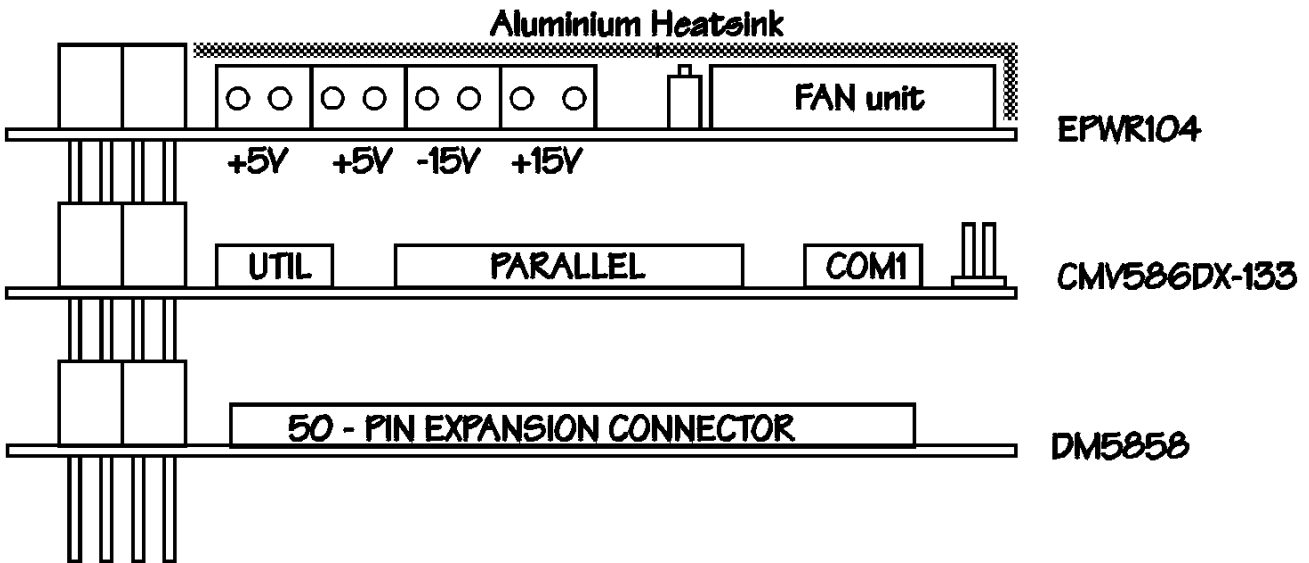

Fig. 3-1: DM5858HR/DM6858HR integrated in a PC/104 RTD cpuModule stack
- Fig. 3-1: DM5858HR/DM6858HR integrated in a PC/104 cpuModule stack